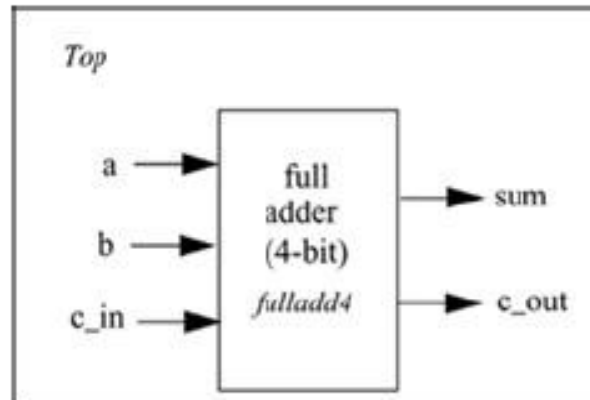

Figure 2-4. I/O Ports for *Top* and Full Adder
- A module definition contains an optional list of ports. If the module does not exchange any signals with the environment, there are no ports in the list. Consider a 4-bit full adder that is instantiated inside a top-level module *Top*. The diagram for the input/output ports is shown in Figure 2-4.